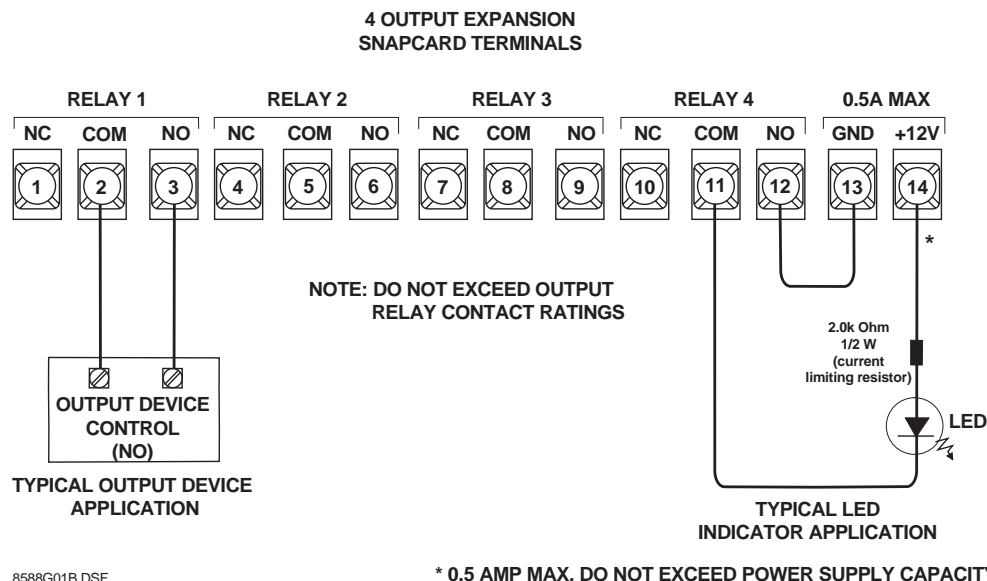

Figure 5. Typical 4 Output Expansion SnapCard Wiring
Table 1 describes each SnapCard terminal. Terminals are numbered left to right. Figure 5 shows how to wire the card.
2. Wire output devices to the card as shown in Figure 5.